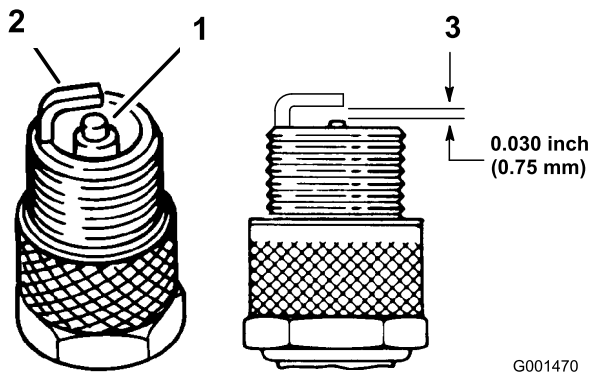

Figure 49
1. Look at the center of the spark plugs (Figure 49). Light brown or gray on the insulator, indicates that the engine is operating properly. Black on the insulator indicates that the air cleaner is dirty.
2. Check the gap between the center and side electrodes (Figure 49).
3. If the gap is not correct, bend the side electrode (Figure 49).
3. Connect the wires to the spark plugs (Figure 49).